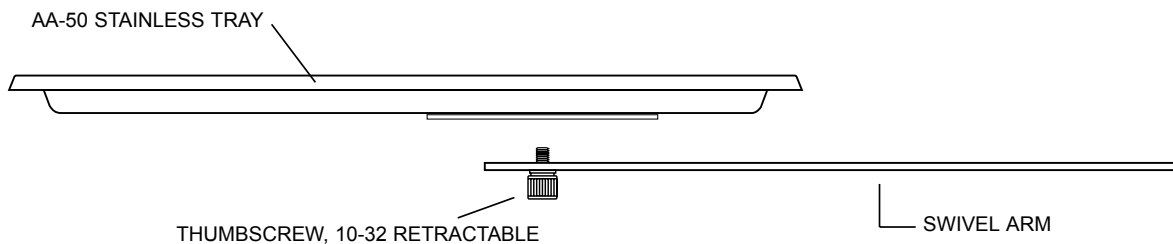
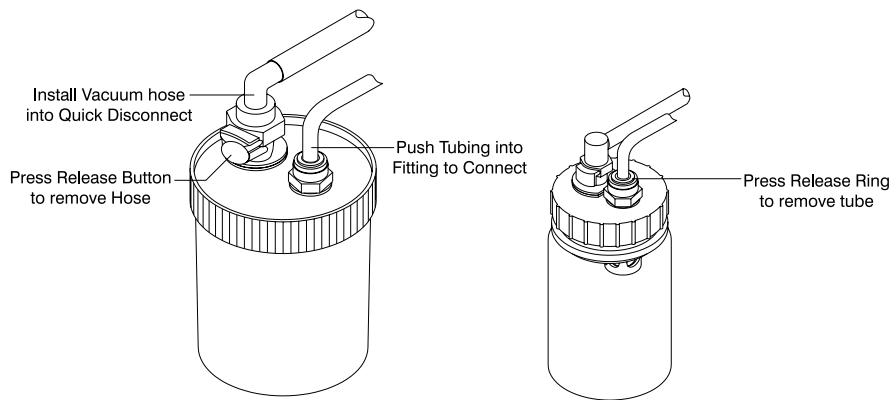

Figure 1 - AA-50 Stainless Steel Tray Assembly
Figure 2 - HVE & Saliva Ejector Waste Reservoirs
2. Remove the instrument tray and swivel bracket assembly from the case. Attach the swivel bracket onto the bottom of the instrument tray, rotate to the extended position and secure with the thumbnut (see fig. 1). Pinch tray and bracket assembly between case lid and base for mounting (Fig. 2).
5. Remove the high and low volume vacuum hose assemblies from their labeled storage pouch and install the HVE hose assembly into the quick disconnect on the lid of the large 1000ml HVE waste reservoir, and the Saliva Ejector hose assembly into the quick disconnect on the lid of the small 1pint Saliva Ejector reservoir. Hang vacuum valves in holders on delivery head. Figure 2